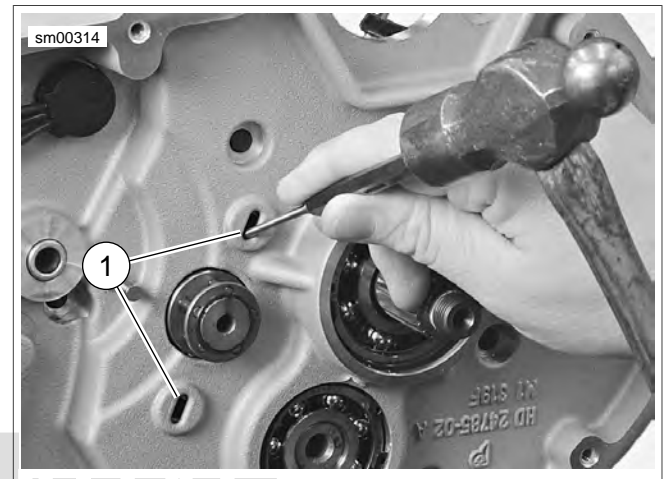

Figure 5-56. Slots for Removing Shifter Fork Shafts
- See Figure 5-56. Remove shifter fork shafts by inserting a small flat punch in the slots and tapping on the end of each shaft until it falls free.